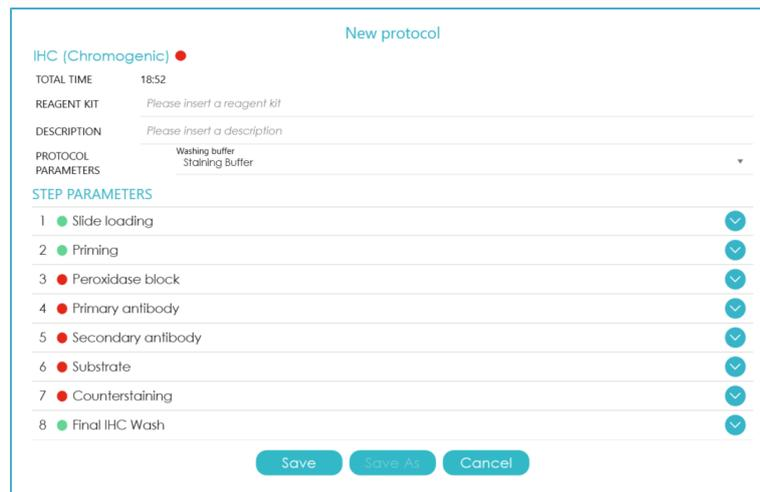

Figure 50) "New protocol" window for FS IHC (Chromogenic) protocols
3. Click "OK". The "New protocol" window will open (Figure 50).